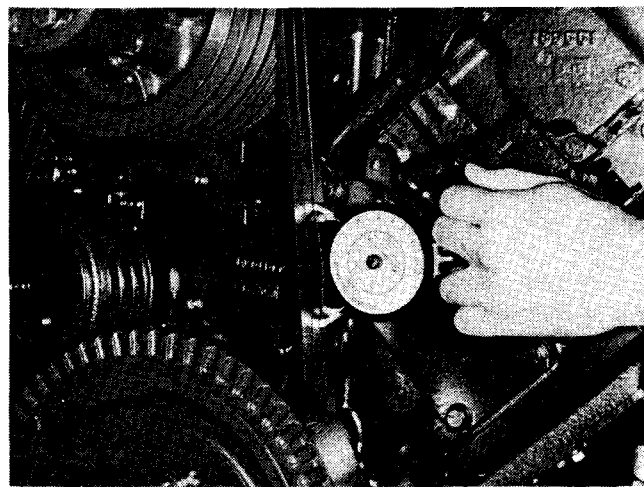
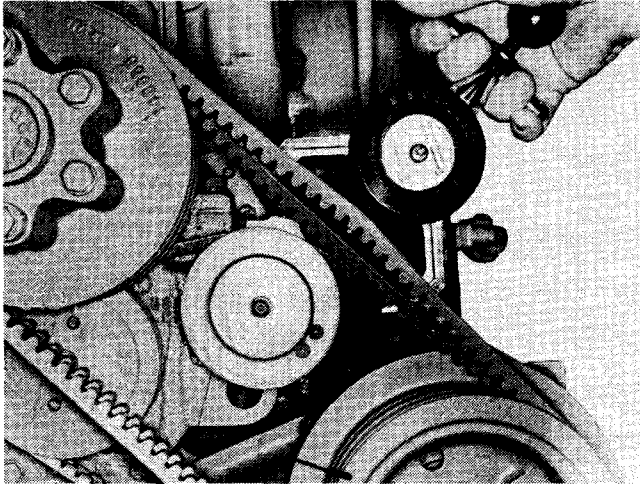

Fig. 2-28, (V51475). Checking belt tension with ST-968
Fig. 2-29, (N11977). Checking belt tension with ST-1138
1. Tighten belts up to 1/2 inch [12.7 mm] wide, until a reading of 90 to 110 lbs. is indicated on ST-968 Belt Tension Gauge, (Fig. 2-28). For belts over 1/2 inch [12.7 mm] wide, use ST-1138 Belt Gauge, (Fig. 2-29).